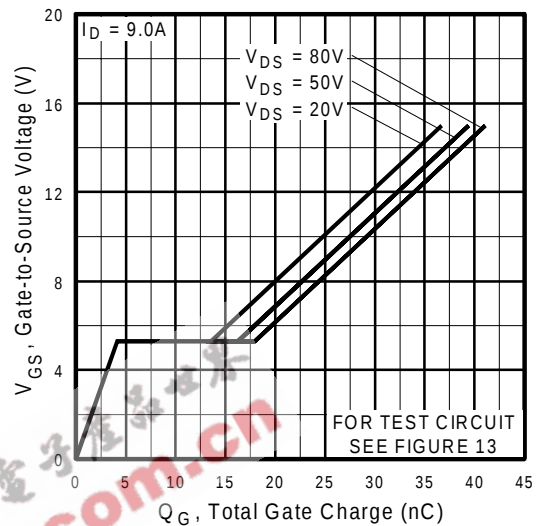

Fig 6. Typical Gate Charge Vs. Gate-to-Source Voltage
| $Q_{gd}$                        | Gate-to-Drain ("Miller") Charge      | —    | —    | 21    |                     | $V_{GS} = 10V$ , See Fig. 6 and 13 ④ ⑥                                        |